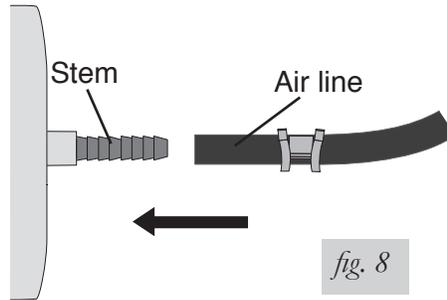

fig. 8
- Slide air line clamp onto the air line. Push the air line onto the stem, covering all the barbs (fig. 8). With pliers slide the air line clamp upward until it fully covers the barbed section. Repeat for the other side.
- Push the air line onto the stem, covering all the barbed section (fig. 8). With pliers slide the air line clamp forward until it fully covers barbed section.